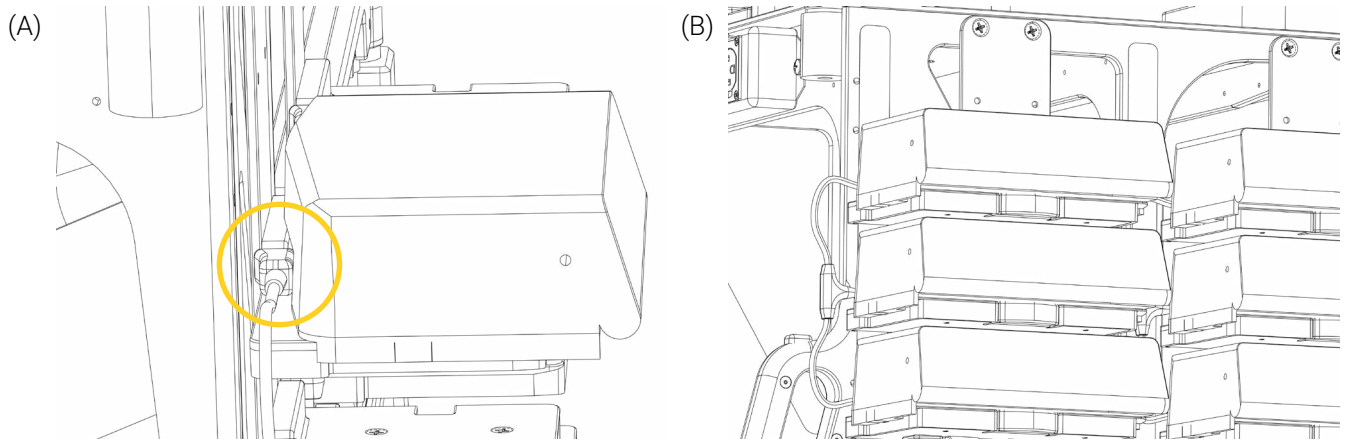

Figure 17: B. Braun Infusomat Space infusion pump installed and connected
4. Move the pump back-and-forth to ensure it is locked and secured in the holder and connected at the back (Figure 17 A).
5. Repeat the steps 1 to 4 to install the remaining pumps into the bracket (Figure 17 B), when required.